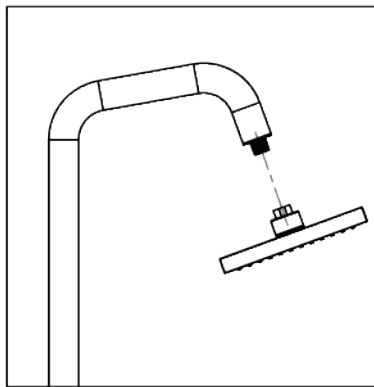

Figure 1
3.1 For the assembly of the upper and lower part of the solar shower, refer to Figures 1 & 2. Place the attached seal between the solar shower's upper and lower parts. Following that, screw the parts together.